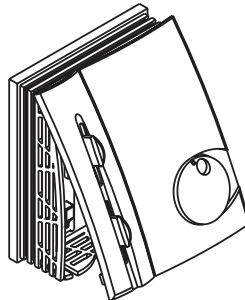

Figure 4
3. Remove the top cover carefully forward and then upward to loosen the top lock. See Figure 4.